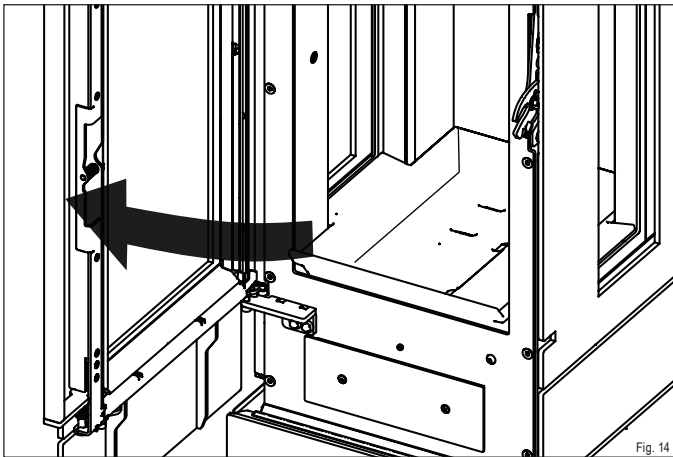

Fig. 14
- ▶ **Open the firebox door (Fig. 14).**
- ▶ **Open the service door (Fig. 14).**